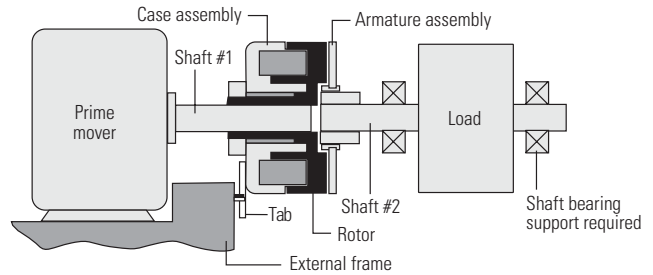

Figure 2
**Figure 2** - Used to couple two inline shafts. The rotor is attached to one shaft and the armature to the other shaft. The case assembly is bearing mounted and is provided with an anti-rotation tab.